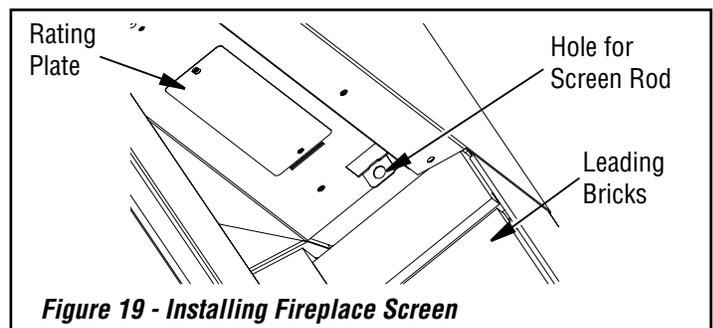

Figure 19 - Installing Fireplace Screen
3. Bend tab on both sides with the hole down to insert the round end screen rod into hole on the left and right side of smoke shelf (**Figure 19**).